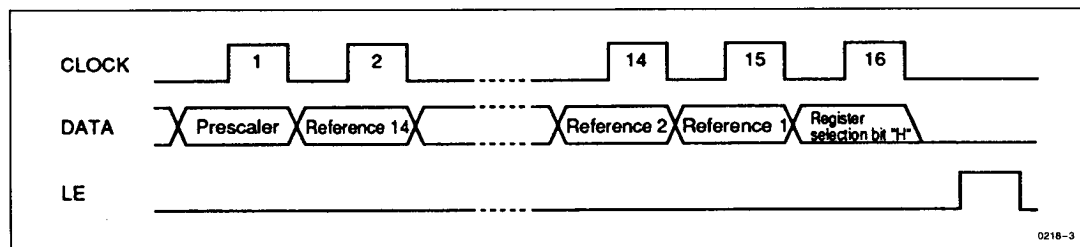

Figure 1. Setting the Prescaler and the Reference Counter Registers (Optional Mode)
**Setting the Registers:** The HD155001T has four internal registers, and they are used to set the reference counter, the program counter, the swallow counter, and the prescaler divisors. These registers are set by the control microcomputer from the CLOCK, DATA, and LE pins. Figures 1 and 2 show the timing charts for these operations.